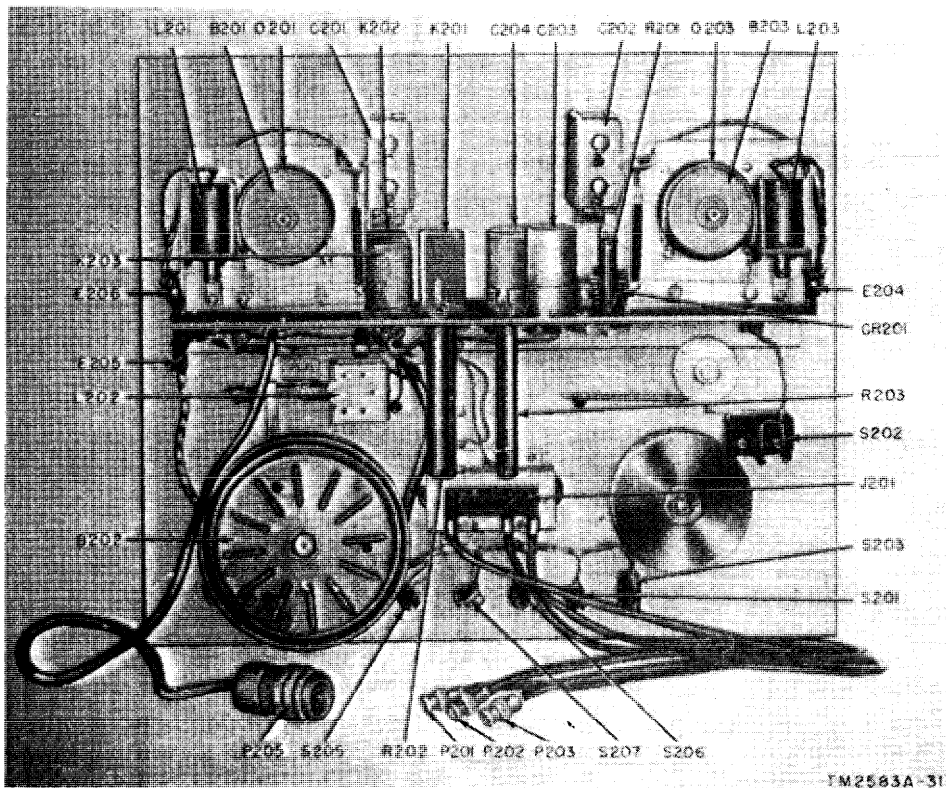

Figure 37. Recorder-reproducer, bottom view.
b. Remove and tag the electrical connections from the motor to terminal board E204 or E206 (fig. 37).
To remove the capstan motor (fig. 37), disconnect all leads, remove the recorder-reproducer (par. 71), and proceed as follows:
- (1) Clean the surface of the brake pulley with Cleaning Compound (par. 31).
- (2) Adjust the two No. 8-32 nuts on the spade bolt that hold the brake tension spring until proper braking action is obtained (a above).
c. *Additional Adjustments.* When operating the equipment with a 7-inch reel, move the tape of resistor R202 (fig. 37) to the 150-ohm position.